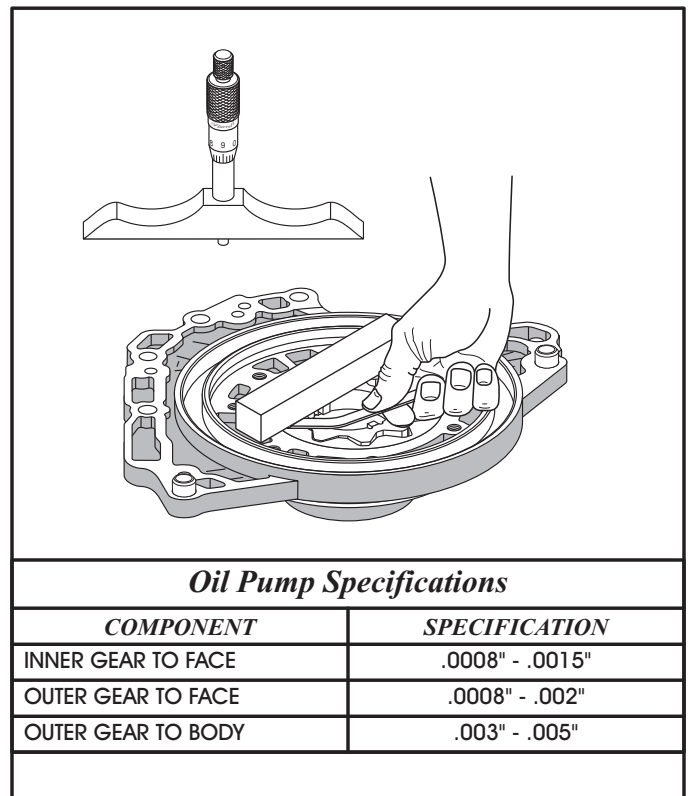

Figure 100
13. Measure the gear to face clearance on both the inner and outer gears using a feeler gage or a depth micrometer, as shown in Figure 100.
Note: Oil Pump Specifications are also shown in Figure 100.